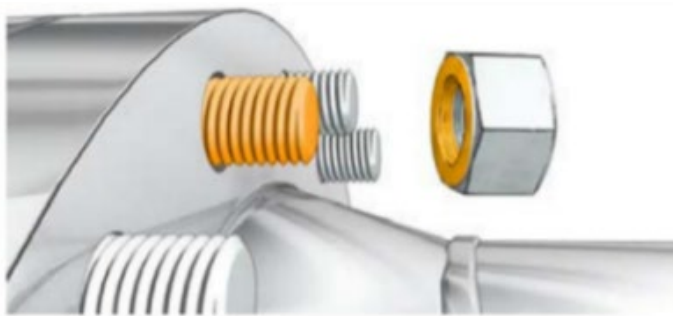

Figure 1: Lubrication (also refer to Note 2)
5. Grease bolts sufficiently with Molykote® G-Rapid Plus so that all threads and contact surfaces between nuts and flanges are covered with lubricant as shown in Figure 1.